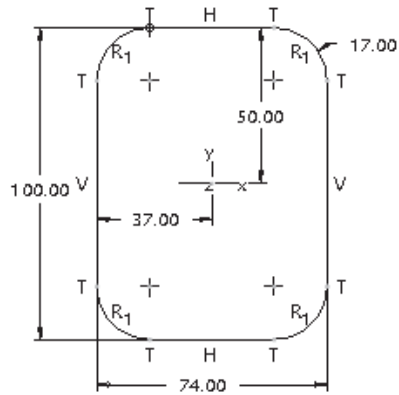

Figure 7-118 Sketch with dimensions and constraints of section 3
- Create the third section for the blend feature, refer to Figure 7-118.
1. Draw the sketch for the third section, insert a reference coordinate system, apply constraints and dimension to the sketch, and modify the dimensions, as shown in Figure 7-118.